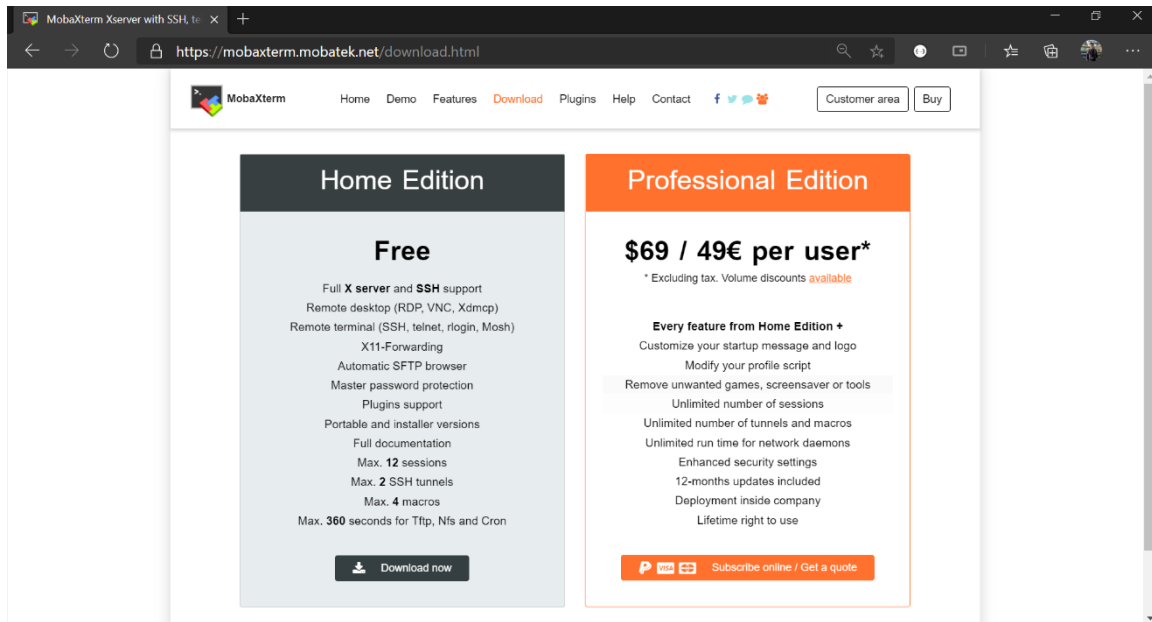

Figure 2-3 MobaXterm Download Page
2. At download page, click at "Download now" to go to home edition download page as shown in **Figure 2-3**.